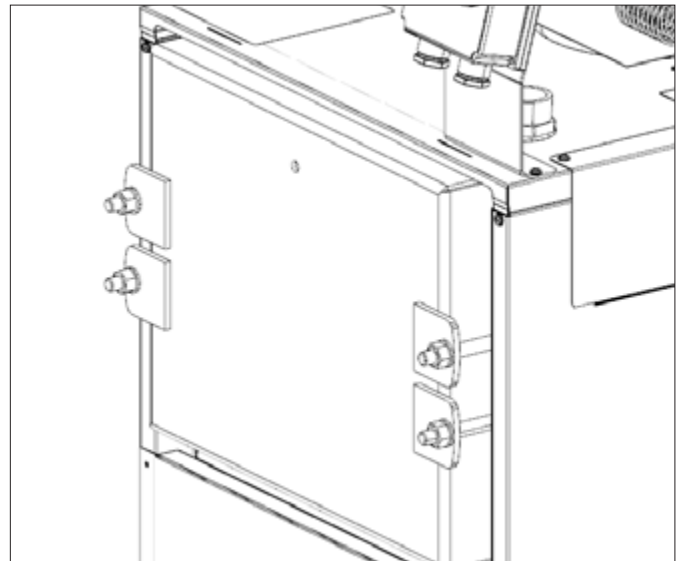

Figure 10-3: Front cleaning door (26-46 model shown)
3. Unscrew and remove the nuts and washers securing the front cleaning door. Remove the door from the boiler - take care as it is HEAVY! Refer to Figure 10-3.